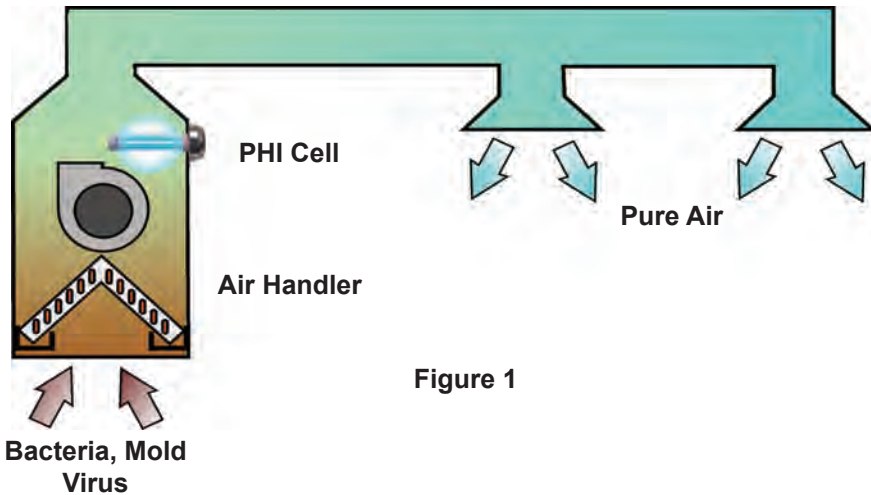

Figure 1
- Four (4) mounting screws
- To maximize the effectiveness of the PHI cell it is recommended (whenever possible) to install the Guardian Air unit in the air plenum just after the air handling unit (supply side), refer to Figure 1 for clarification.